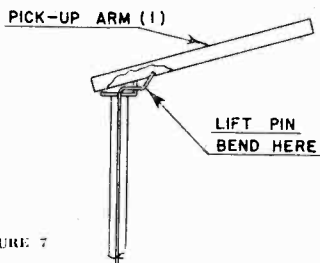

FIGURE 7
Readjust end of Lift Pin (25) so that needle will play first record. (See Figure 7.)